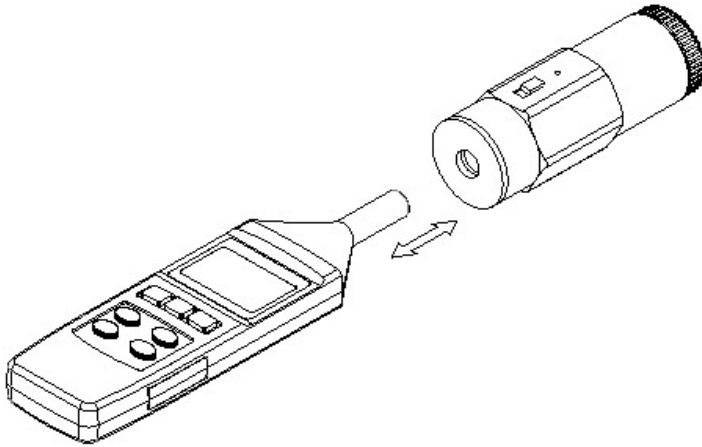

Fig. 2
- 3) Insert the microphone of calibrated " SOUND LEVEL METER " carefully all the way into the couple section of the Sound Calibrator. (Refer to Fig. 2).
- 5) Adjust the calibration VR (knob) of the calibrated " SOUND LEVEL METER " until that the display reach to 94.0 dB exactly or the meter pointer points to the " CAL " mark. (Refer Fig. 2)